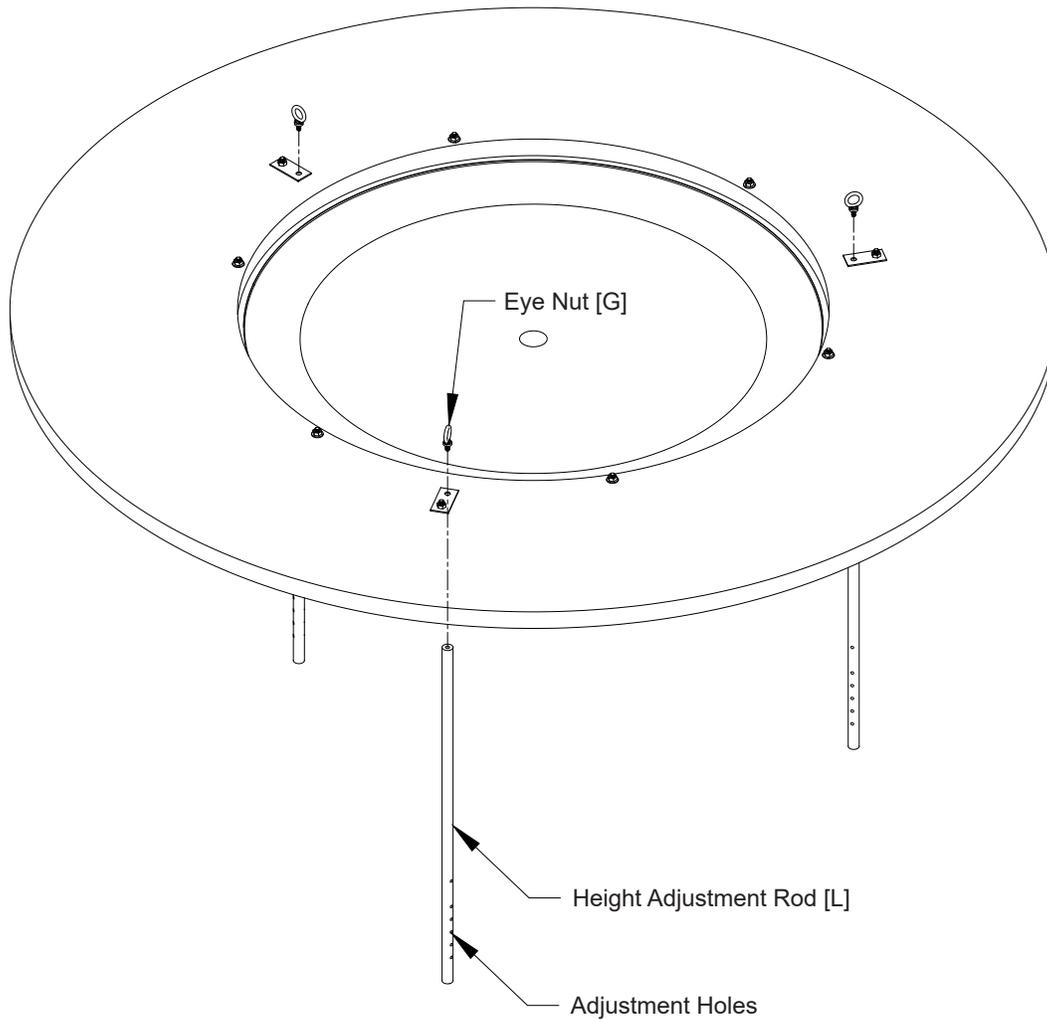

Figure 3
Insert (3) Height Adjustment Rod [L] into the large holes in underside of Air Deflector and fasten with (3) Eye Nuts [G] through Plate [F]. Make sure the Adjustment Holes are away from the Air Deflector. See *Figure 3*.